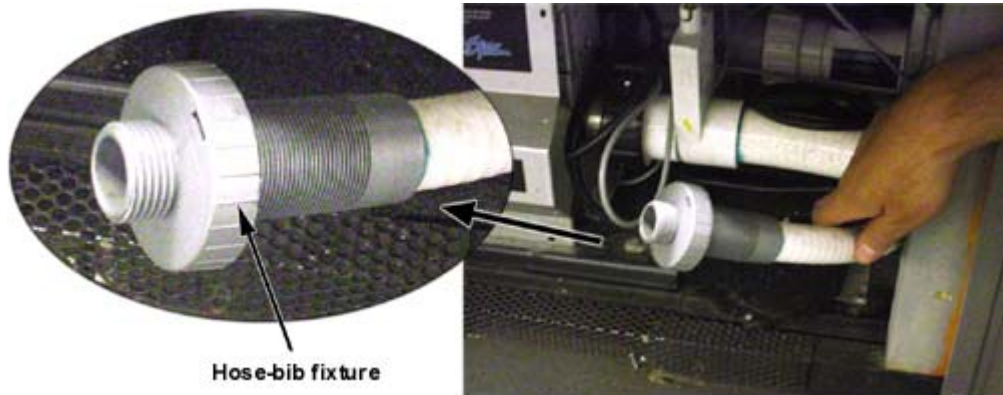

Figure 14. 3/4 inch hose-bib fixture
4. Locate hose ending with the 3/4 inch hose-bib fixture (Figure 14).